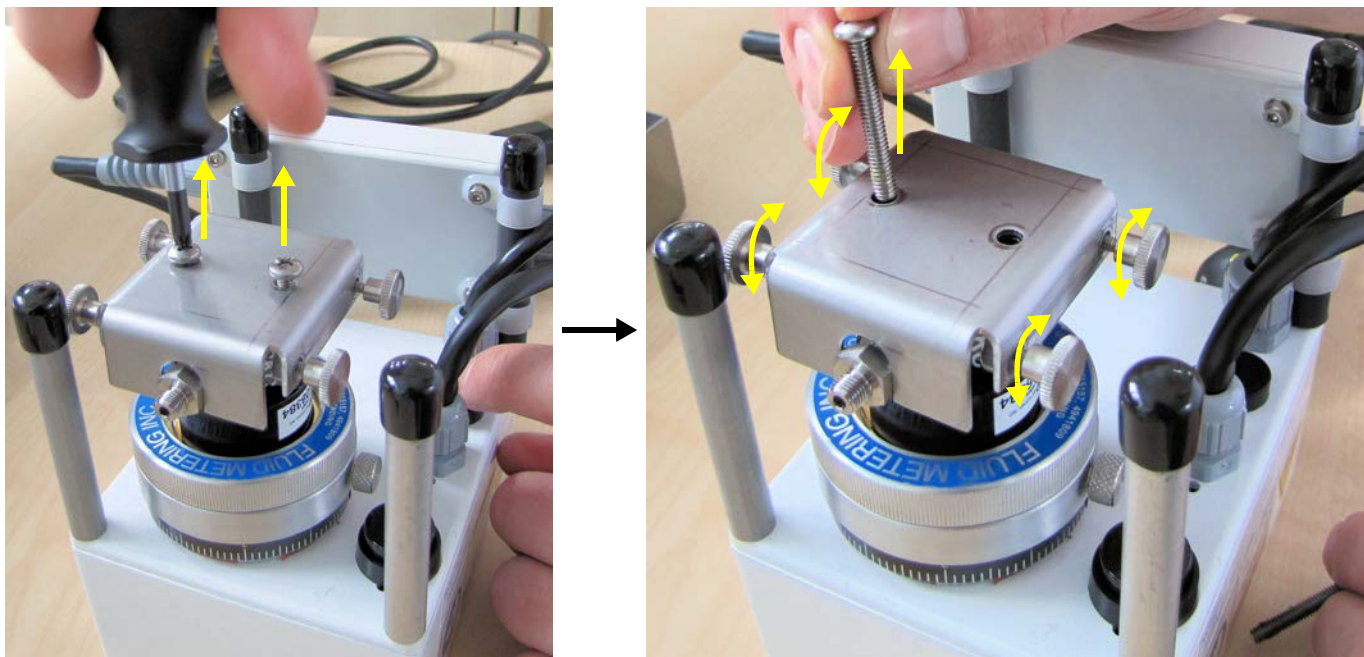

Figure 9-19. Removing both crosshead screws and loosening four knurled screws a bit
6. Remove both crosshead screws using a crosstip screwdriver. See Figure 9-19.
7. Manually loosen the four knurled screws a bit. Do not remove them entirely from the bracket. See Figure 9-19.